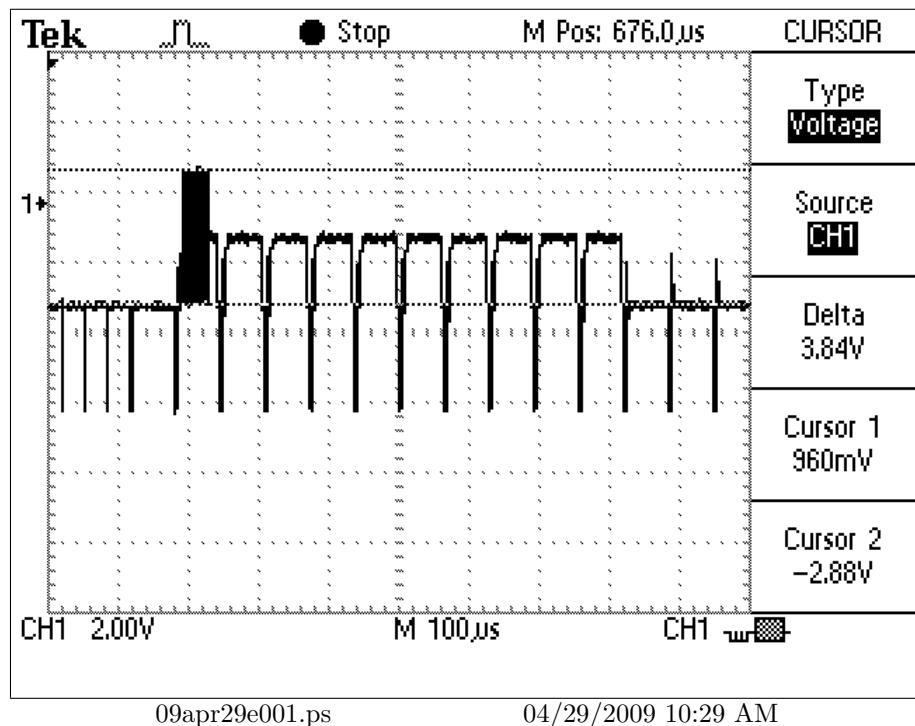

Figure 23: Camera data Peak-Peak voltage
- 11.1 The camera uses a signal that is about 384 mV P-P. (Figure 23, page 26)